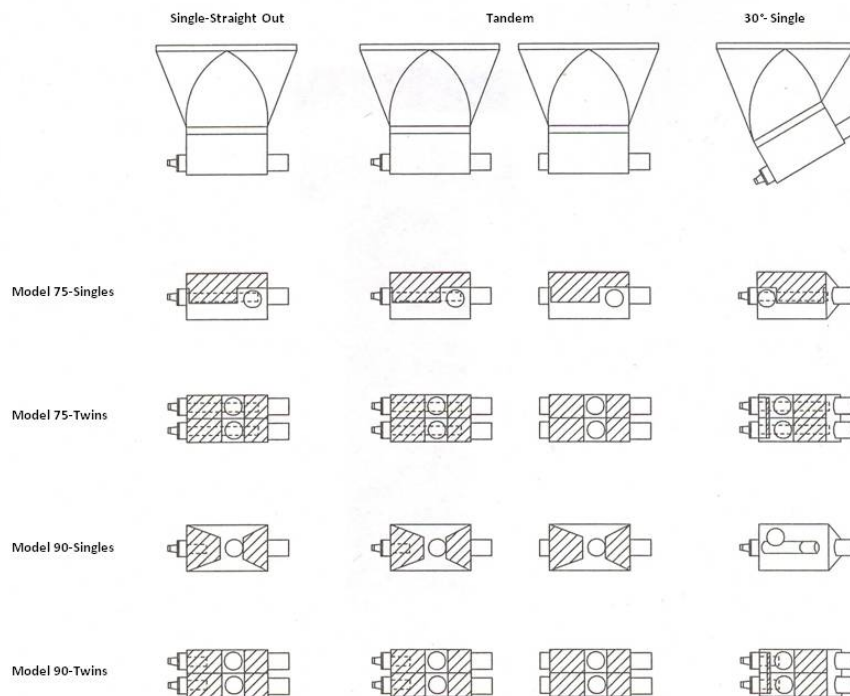

Figure 2
4. Prior to assembling the unloader to transfer plate, the correct restrictor plate configuration (if any) should be assembled to the unloader for the specific application with supplied 5/16-18 x 3/4" Bolts and Nuts. Please see Figure 2 for a guide.